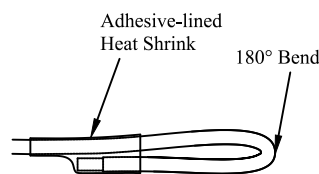

Figure 21: Unused wire covering.
11. Cover the unused white and brown wires with heat shrink tubing as shown (Figure 21).
X Indicates wire is sealed away and not used (Figure 21).